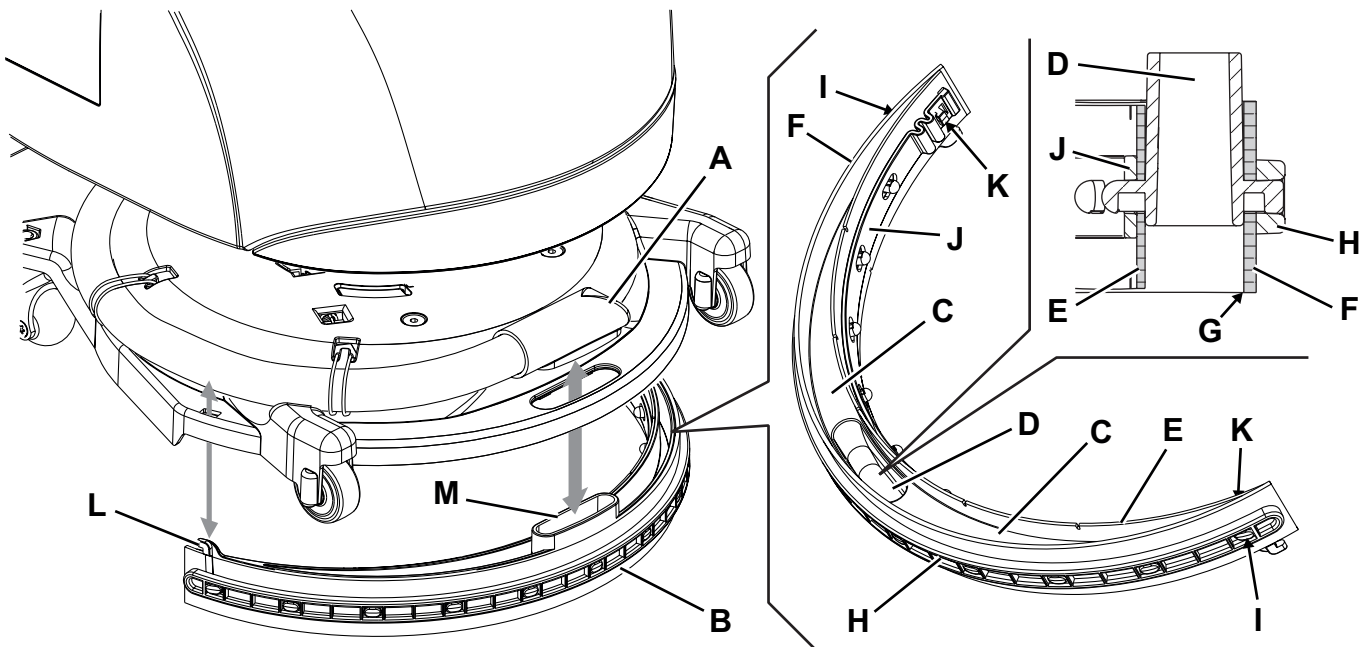

Figure 6
2. Check that the function selection knob (31) is turned to "0" and disconnect the battery connector (7).
3. Fully turn the brush/pad-holder deck (12) counter-clockwise.
4. Disconnect the vacuum hose (A, Fig. 6) from the squeegee.
5. Disengage the squeegee (B) from the deck.
6. Wash and clean the squeegee. In particular, clean the compartments (C) and the vacuum hole (D).
7. Check the front blade (E) and the rear blade (F) for integrity, cuts and tears; if necessary replace them (see the procedure in the following paragraph).
2. Check the front blade (E, Fig. 6) and the rear blade (F) for integrity, cuts and tears; if necessary replace them. Check that the front corner (G) of the rear blade is not worn; otherwise, overturn the blade to replace the worn corner with an integral one. If other corners are worn too, replace the blade as shown:
- Remove the fastening strap (H) by disengaging it from the fasteners (I).
- Replace (or overturn) the rear blade (F), then reinstall the fastening strap.
- Remove the fastening strap (J) by disengaging it from the fasteners (K).
- Replace (or overturn) the front blade (E), then reinstall the fastening strap.
3. Install the squeegee (B) by carefully inserting the hooks (L) and the vacuum hole (M) in the brush deck housings.
4. Connect the vacuum hose (A) to the squeegee.